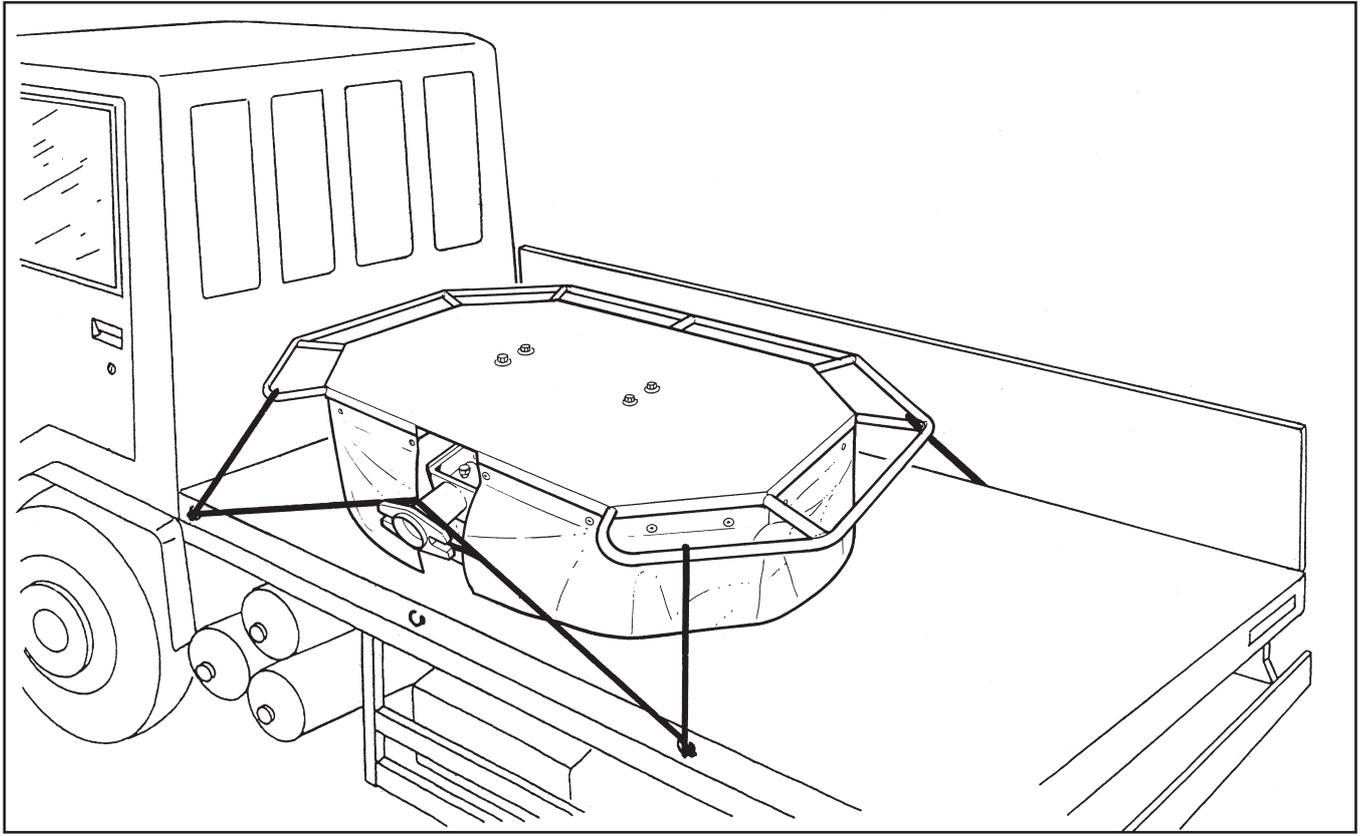

Fig. 1
- 1) The machine can be transported by truck, trailer etc. provided the means is suitable as regards the outline, capacity, condition of the load-bearing frame and, in any case, complies with the regulations applicable in the country in which the machine is used (**Fig. 1**).